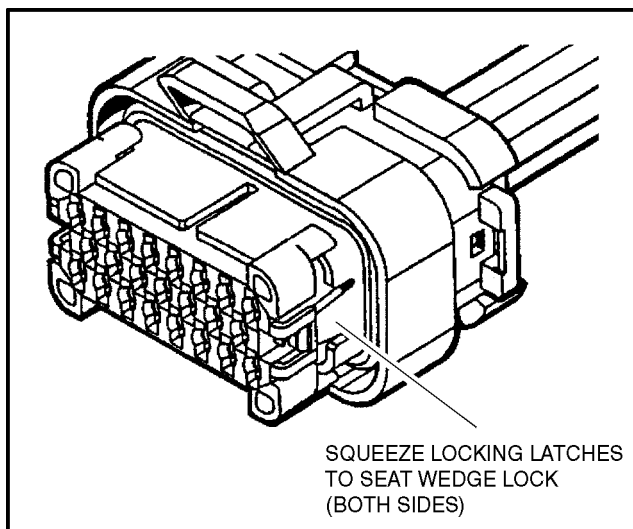

Figure 7-14. Connector Assembly Figure 3
3. After all required contacts have been inserted, the wedge lock must be closed to its locked position. Release the locking latches by squeezing them inward (See Figure 7-14.).